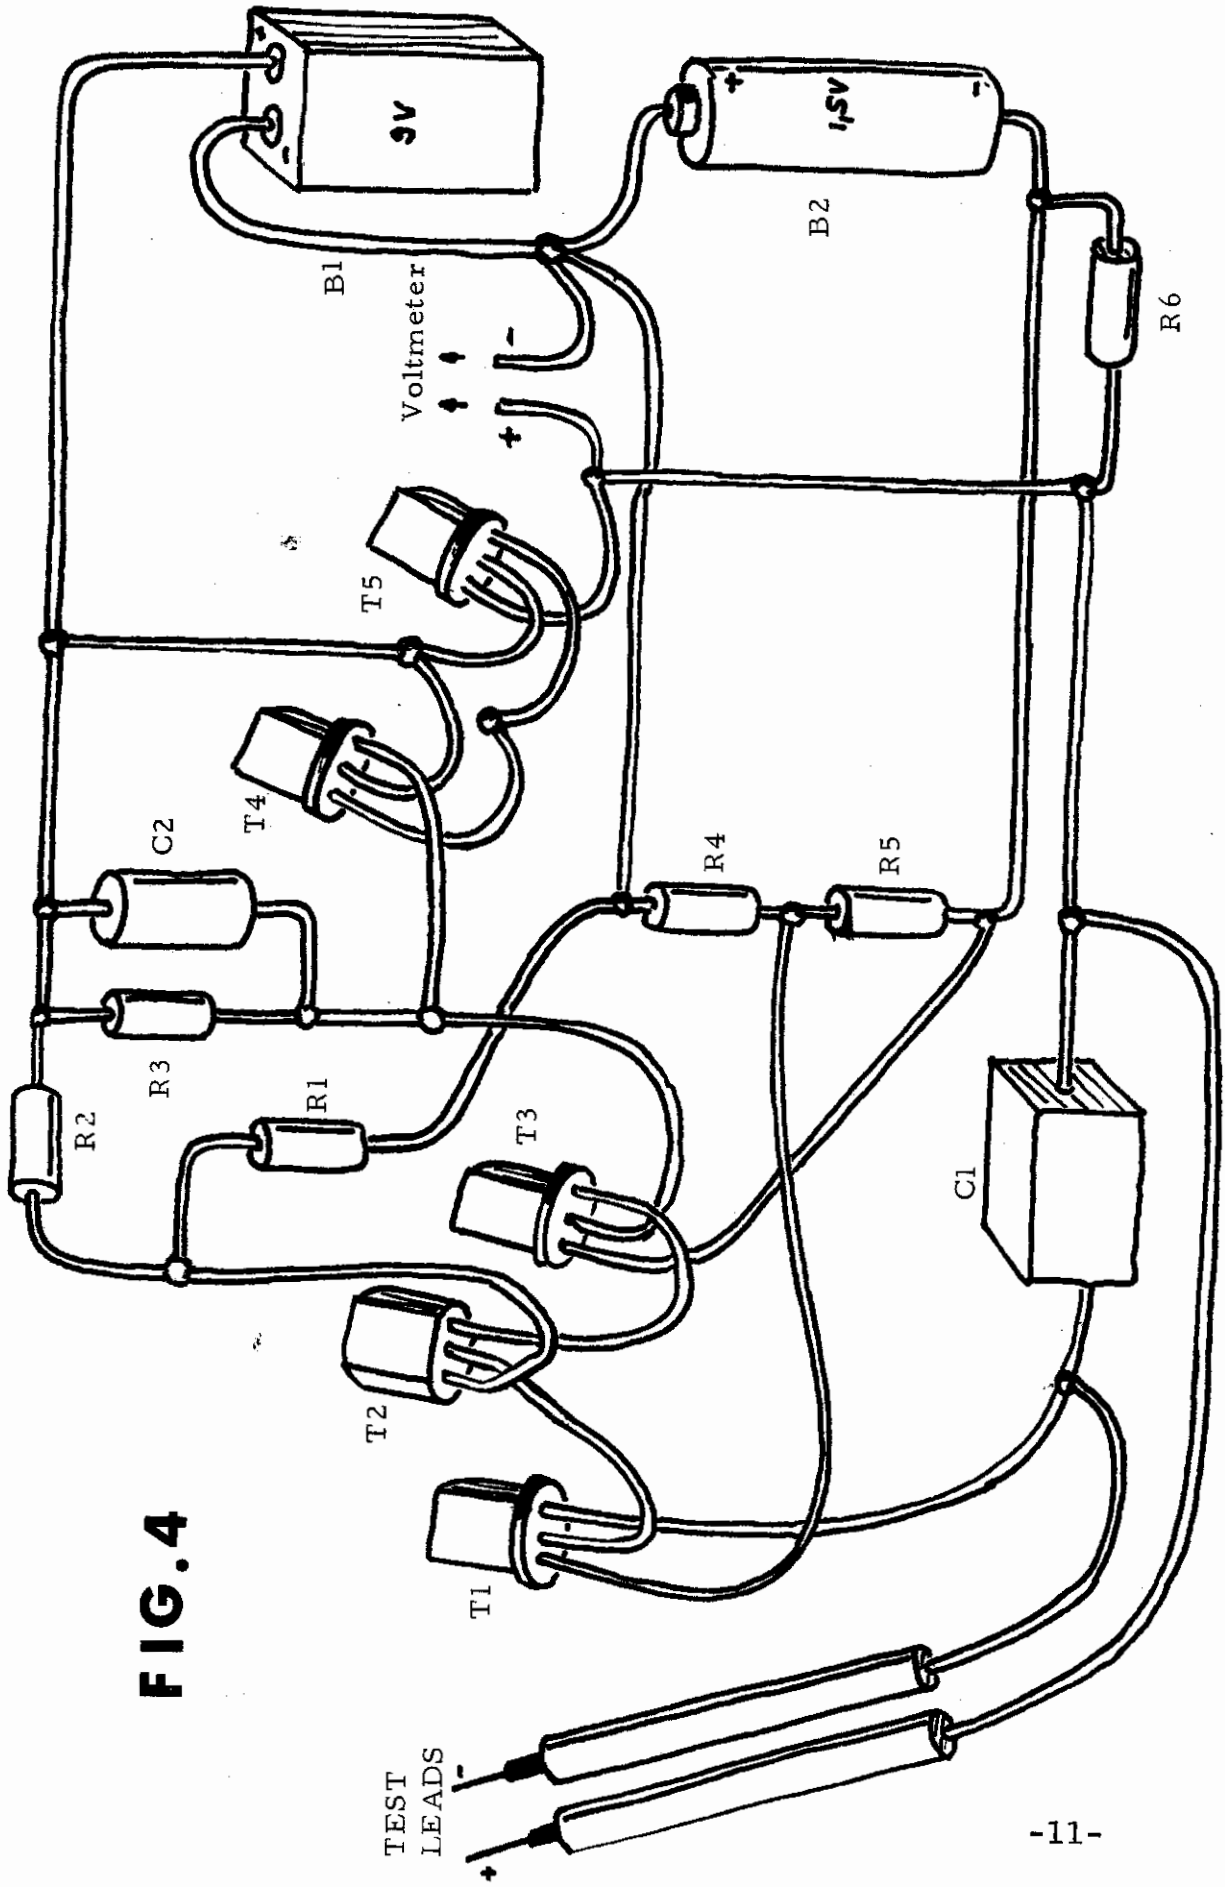
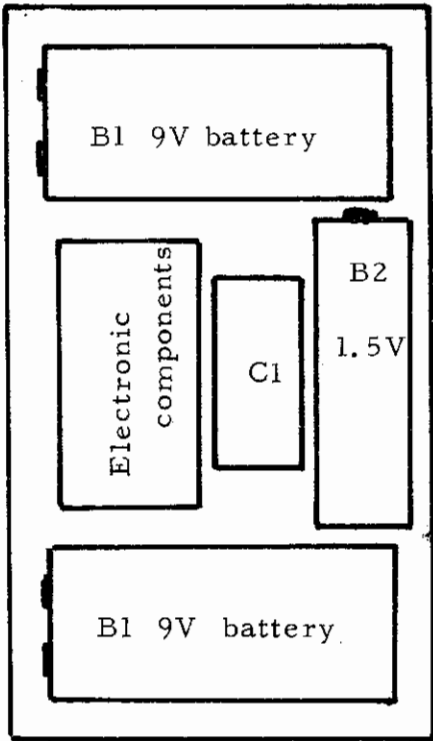

FIG. 4
Fig. 8.
The circuit is "tame" and can be built in any way you decide. Printed board, Vectorboard, or even a "crow's nest" wiring will give good results. No shielding is necessary. Figures 4 , 5 and 6 show the actual wiring. An example of a unit built on a vectorboard is depicted in Fig. (7). An 18V version of the Voltmeter Memory Adapter (Fig.1 on the front page) is built into a simple plywood box. It contains two standard 9V transistor radio batteries, one 1.5V penlight battery and the circuit built according to Fig.1. The arrangement is shown in a sketch (Fig 8). The whole unit was permanently attached to a Simpson voltmeter and tested for about a year in an actual operation (troubleshooting of transistor instruments). The results demonstrated the excellent features and handiness of this concept.